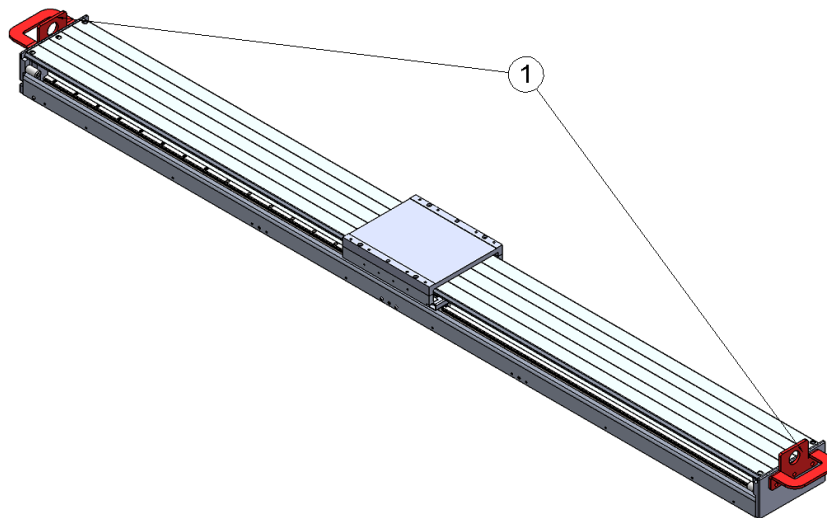

Fig. 4.1 Transportation safety device and shipping devices – here for a LMSSA linear motor system(long stroke)
- ▶ Lock shipping devices on the linear motor system. (Fig. 4.1 ①)